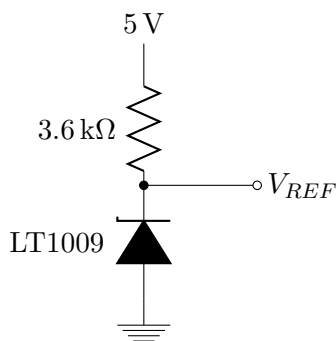

Figure 7: Schematic of the LT1009 precision voltage reference circuit.
1. Build circuit shown in Fig. 7 on your breadboard.